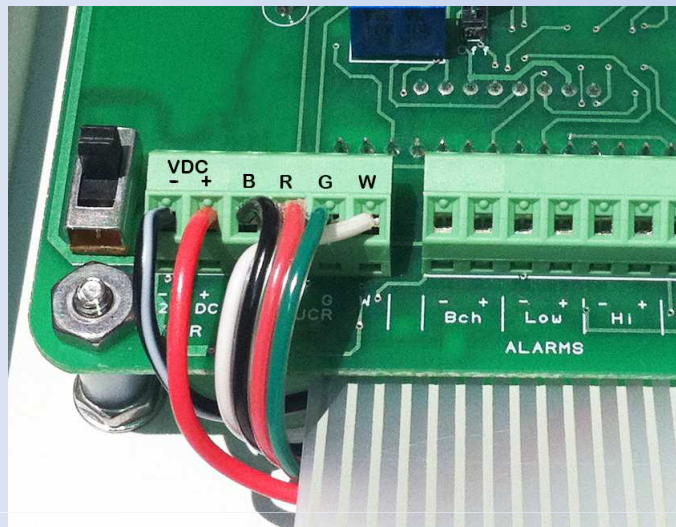

Figure 4.
If your Doppler sensors are not yet connected to the electronics control panel, open the panel, and use figure 4 as a guide to make the proper wiring for the 4 transducer cables: Black (-12VDC), Red (+12VDC), Green (Echo), White (Signal).
- If needed, connect the DC power cable wires to the 12 VDC PWR section of the processor board using Figure 4 as a guide.